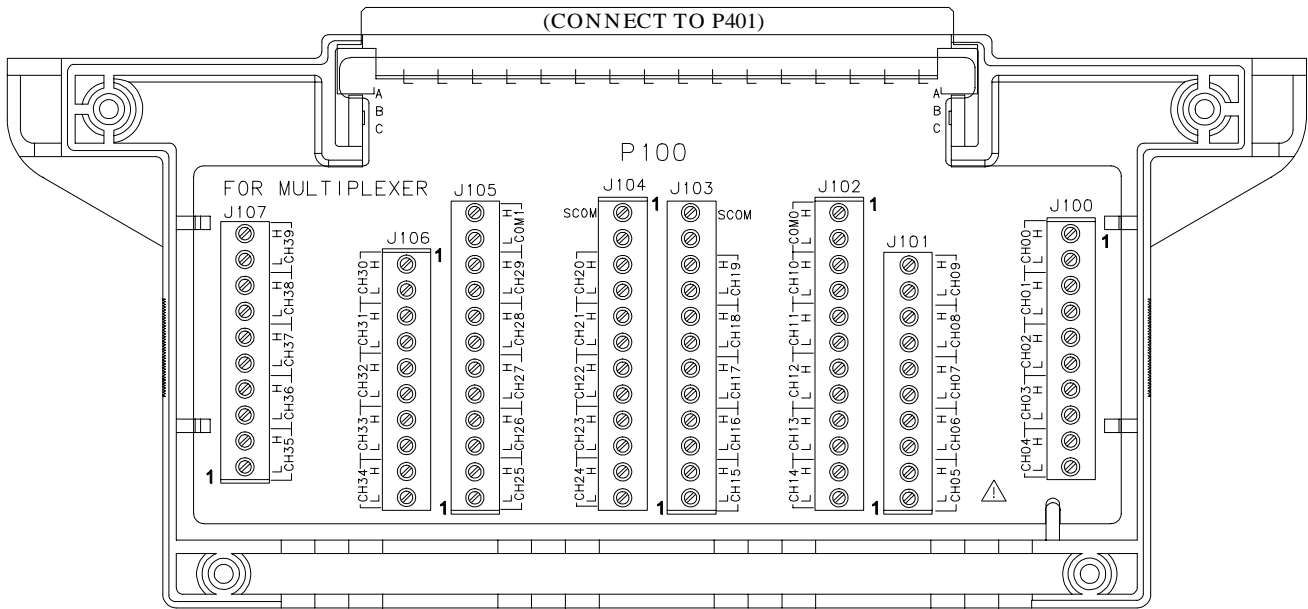

Figure 8-3. HP N2290A Screw Connectors Pinout
**Terminal Blocks** A screw terminal block (HP N2290A) and a crimp-and-insert terminal block (HP N2296A) are available with the HP N2260A. Figure 8-3 shows the pinout of the screw connectors on the HP N2290A. For wiring information on the terminal blocks, refer to "Plug-In Modules Wiring Information" on Page 254.